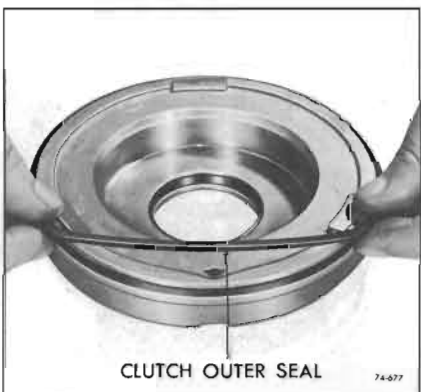

Figure 74-677
8. Remove the outer seal from the piston. See Figure 74-677.